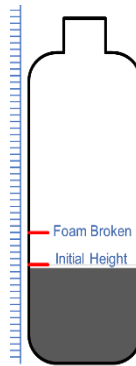

Figure 1
- Mark and record the Initial Height of the liquid in the bottle to the nearest mm (1/32"). See Figure 1.
- Place a second mark, the Foam Broken Line, 10 mm (13/32") above the Initial Height. See Figure 1.